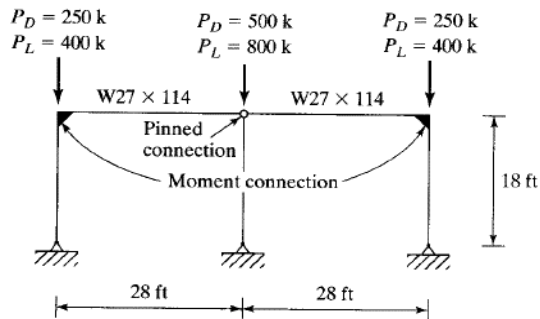

FIGURE P7-9
- Design W14 columns for the frame in Figure P7-9 above (interior)